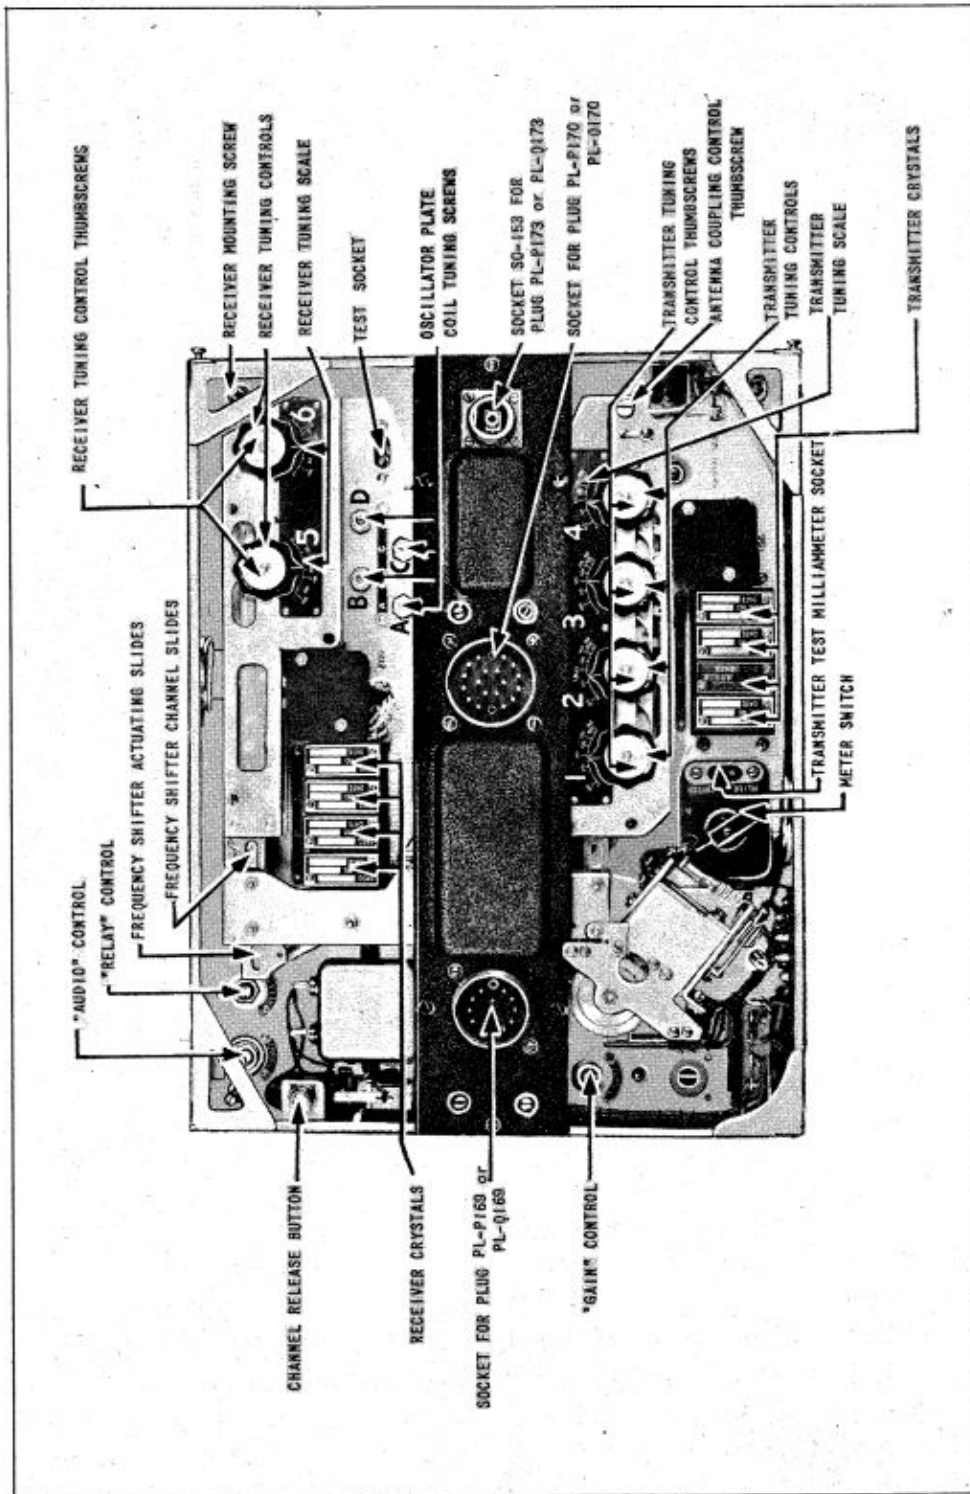

Figure 10—Transmitter and Receiver Assembly, Covers Open, Top View
(b) Press channel release pushbutton (426). (See figure 10.)
Having tuned the airplane antenna to the transmitter, by means of the transmitter tuning control 4 (see figure 10) and using "METER SWITCH" 165 position "3," do NOT retune to the Phantom Antenna A-29 because the capacitance and reactance differ.
(*m*) If the meter readings in steps (*j*) and (*k*) are more than .75, slide the antenna coupling control (see figure 10) to the right to decouple and reduce the reading. Retune controls 1, 2, 3, and 4 again.
(*i*) If necessary, adjust the antenna-coupling control 411-2. (See figure 10 and note 3., *b.*, (7).) Check the meter reading on the lowest frequency channel. If this reading is approximately 0.63 no adjustment of the antenna coupling is necessary. If it is less than 0.60 or more than 0.75, readjust the coupling on this channel in accordance with the instructions in paragraph 3., *b.*, (7).
(12) ADJUSTMENT OF TRANSMITTER "GAIN" CONTROL.—With any channel switched on, all channels tuned, and the airplane engines running, adjust the "GAIN" control 125 for normal voice level under conditions of normal operation. A setting of one-half turn clockwise from the extreme counterclockwise position is usually satisfactory.
(4) TUNING ADJUSTMENT FOR CHANNEL A.
- (b) Set up Test Equipment IE-36 as described in paragraph 3., *c.*, (2).
- (c) Turn band selector switch on Control Unit BC-1303 to "D." This is the channel preceding the channel to be tuned (channel A). (See paragraph 3., *b.*, (7).).
- (d) Press the channel-release pushbutton 426 located on Rack FT-244-A. (See figure 10.)
Avoid tuning to an undesired harmonic by making certain that the receiver r-f and oscillator tuning controls, 5 and 6, are turned to the desired frequency on the calibration plate. See figure 10. With any given crystal in use, it is possible to tune the receiver perfectly at any of several equally spaced frequencies in the 100-156 mc range, and buzzer noise will be received well at any of the frequencies. Therefore, it is essential that the tuning dials 5 and 6 indicate within plus or minus three mc of the desired operating frequency. A greater error than this may mean that the receiver is tuned using the wrong crystal harmonic, which means that the receiver may be operating some 8 mc removed from the operating frequency.
(g) Turn on the "SIG GEN" switch located on the left end of the control unit, and rotate the "AUDIO" 236 and "RELAY" 237 controls (see figure 10) to their maximum clockwise rotation positions.
(b) Starting from the extreme clockwise position, slowly turn the channel A oscillator plate-coil tuning screw adjustment A, figure 10, counterclockwise so that about three to five threads of the screw protrude from the coil-mounting insert. The higher the crystal frequency the further the plate-coil screw must be backed out of the coil-mounting insert, thus obtaining the necessary inductance to permit the oscillator to start.
1. When the oscillator starts, a signal should be heard in the phones. If there is no audible signal, simultaneously adjust the receiver r-f (6) and oscillator tuning (5) controls slightly, and if necessary, turn the channel A oscillator plate-coil tuning screw A still further counterclockwise until the signal is heard. (See figure 10.) When the signal is heard, rotate the oscillator plate-coil tuning screw A clockwise until the signal suddenly ceases, then rotate the screw counterclockwise to a position at least three-quarters of a turn past the point at which the oscillator starts. The additional three-quarters of a turn is required for a stable adjustment of the crystal oscillator. If the output is decreased appreciably by this extra rotation, continue turning the screw counterclockwise until the output audible signal is increased as much as possible. (Final adjustment should be made on a
2. For modified receivers, most accurate tuning is obtained if controls 5 and 6 (figure 10) are peaked using only circuit noise or hiss and with the "SIG GEN" switch in the "OFF" position. This "fine" adjustment is to be made after "rough" tuning with the "SIG GEN" switch in the "ON" position.
(5) TUNING OF REMAINING CHANNELS.
Before turning band selector knob 106 to "B," hold the tuning controls with the fingers and tighten the lock nuts 5 and 6 just enough to exert a slight pressure on the cam pile-up. While doing this, make certain that the audio output level remains constant. This is accomplished by readjusting tuning controls 5 and 6, figure 10. Follow the same tuning procedure outlined for channel A in the paragraphs under 3., *d.*, (4).